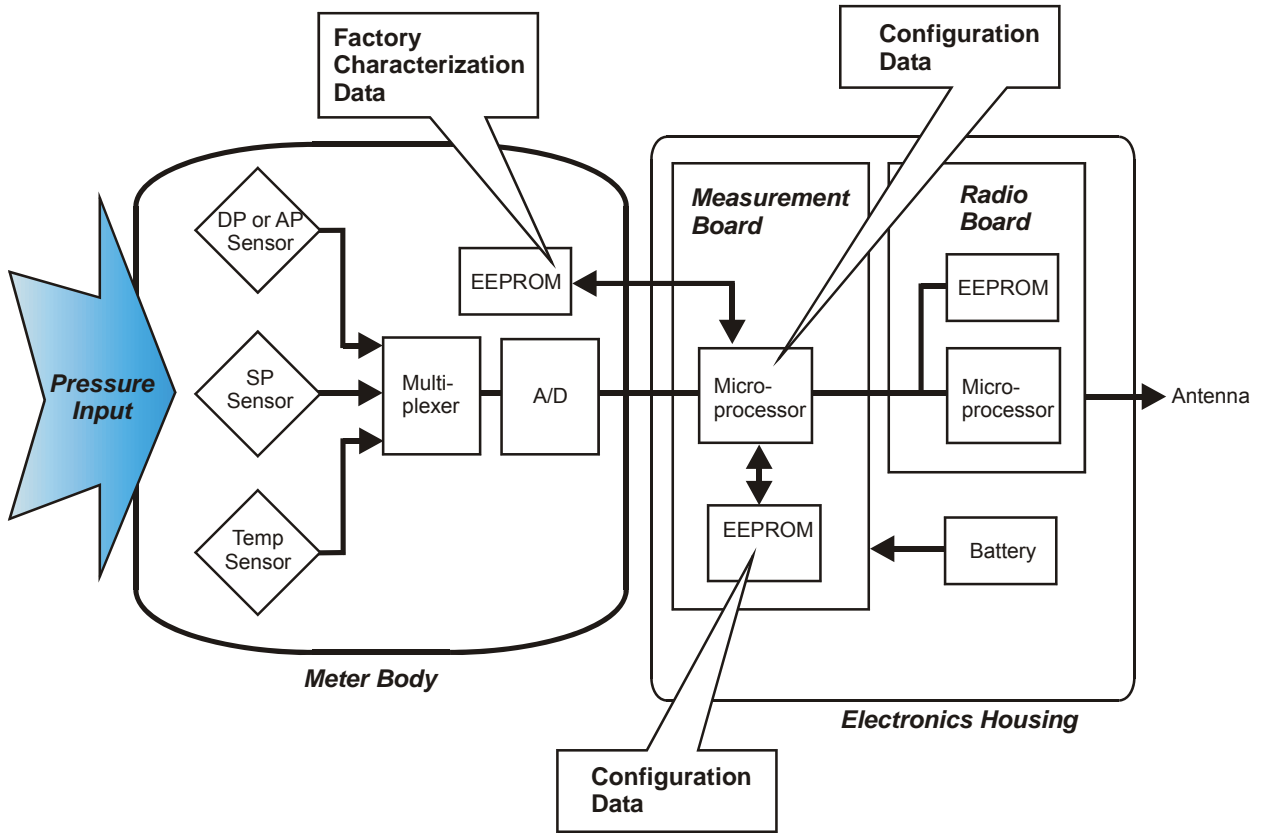

Figure 1 XYR 6000 Functional Diagram
The transmitter measures the process pressure and transmits the measured value as a digital output signal in user-configured engineering units. Its major components are electronics housing and a meter body as shown in Figure 1 (a typical differential pressure model transmitter).
The Process Variable (PV) is available for monitoring and alarm purposes. Available PV update rates: 1, 5, 10, 30 seconds and are set on Wireless Builder. Slower update rates extend battery life. The meter body temperature is also available as a secondary variable for monitoring. Figure 1 shows a block diagram of the XYR 6000 Pressure transmitter's operating functions.